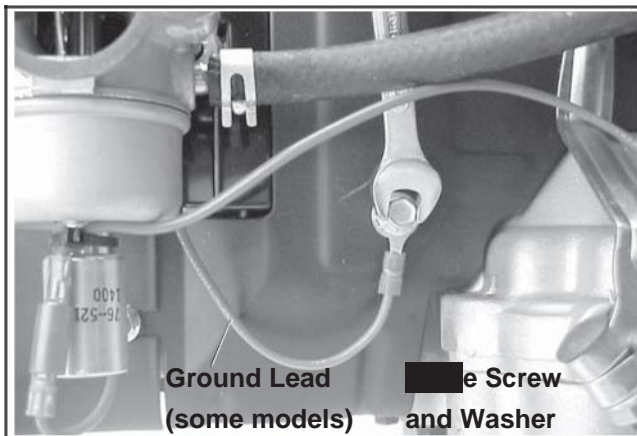

Figure 9-11. Removing Baffle Screw and Washer.
7. Remove the baffle screw and internal tooth washer securing the ground lead for the fuel solenoid, if so equipped. See Figure 9-11.